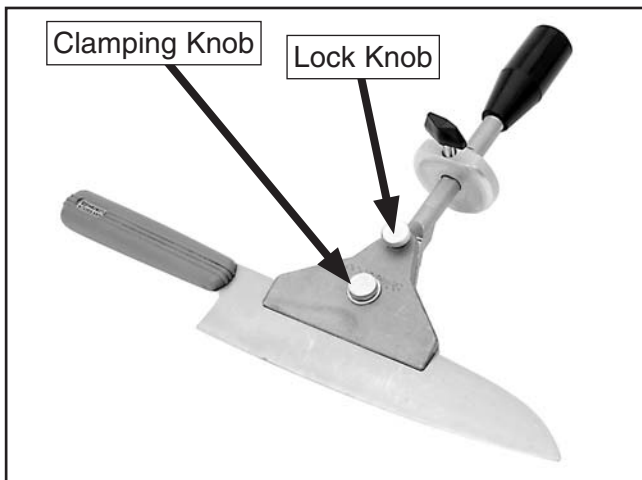

Figure 7. Knife clamping.
4. Insert a knife into the clamp as shown in **Figure 7** and tighten the clamping knob.